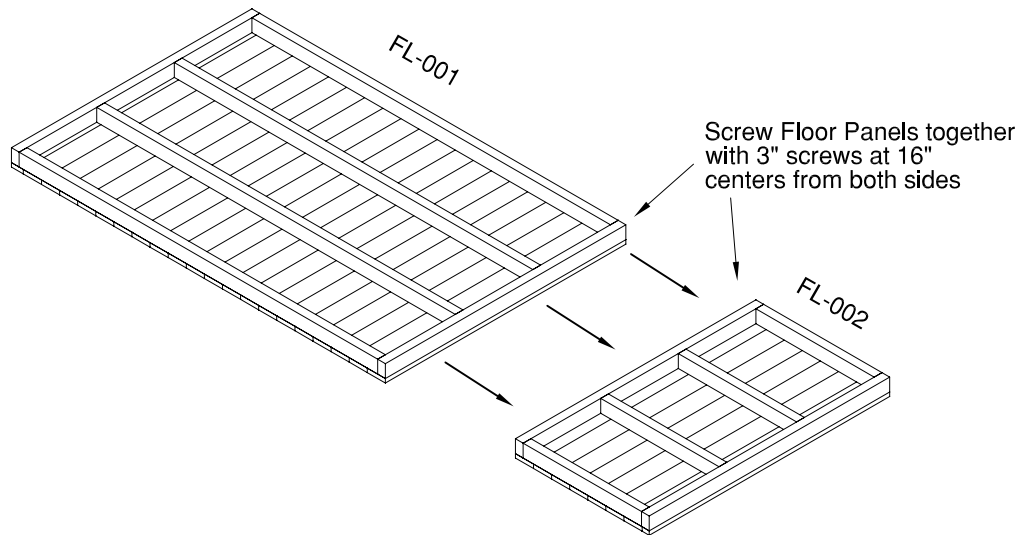

FIGURE S1
- Attach the Floor Panels together with 3" screws at 16" centers from both sides (FIGURE S1)